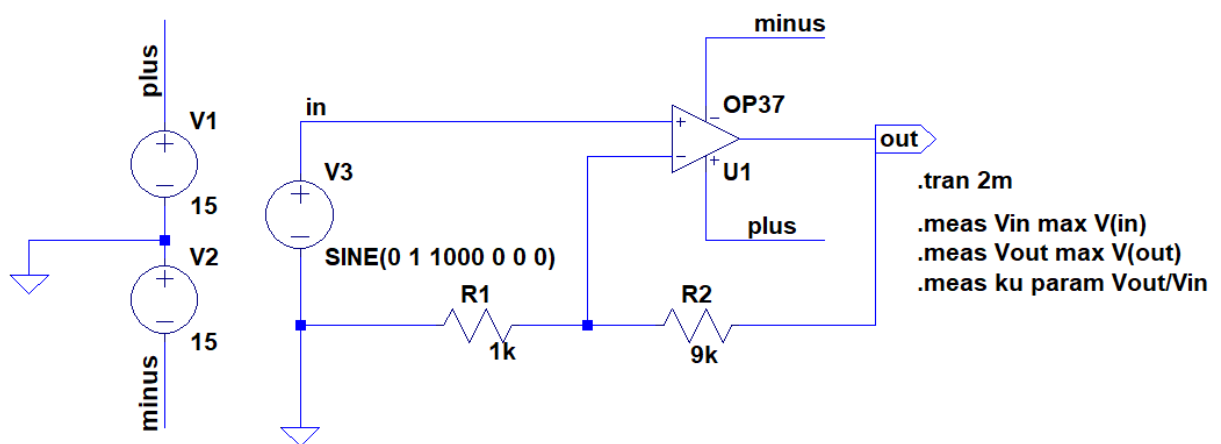

Fig. 1. Diagram of the tested amplifier circuit.
1. Create the amplifier circuit diagram as shown in Figure 1.
2. Perform time analysis, compare the input (IN) and output (OUT) voltage values. Find the voltage gain (ku).